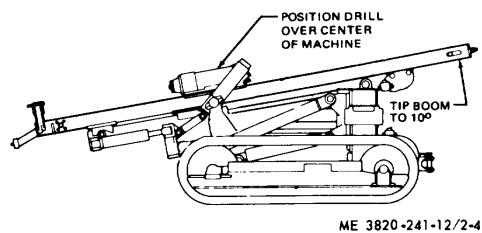

Figure 2-4. Maximum stability position for rock drill trammng and storage.
(2) Position the rock drill in the maximum stability position for tramping or towing illustrated in figure 2-4.